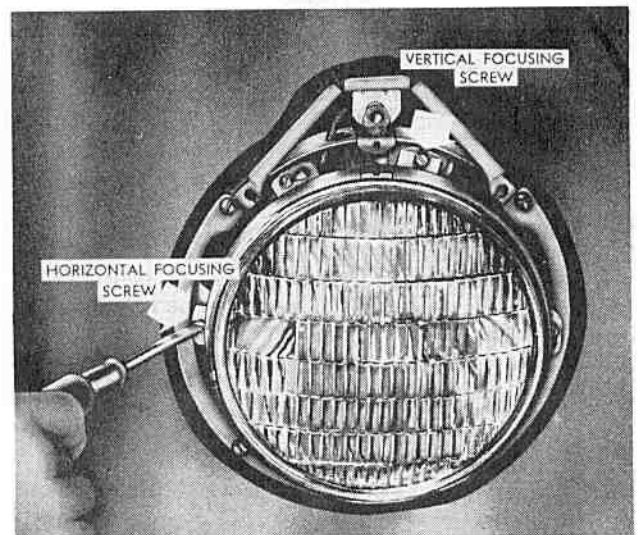

FIG. 114
**CHAMPION AND COMMANDER** To adjust the head lamps, use either an adjusting screen or a head lamp tester. The screw at the top of the head lamp body controls the vertical adjustment of the head lamp beam, whereas the screw at the left of the head lamp body controls the horizontal adjustment of the beam (see Fig. 114).